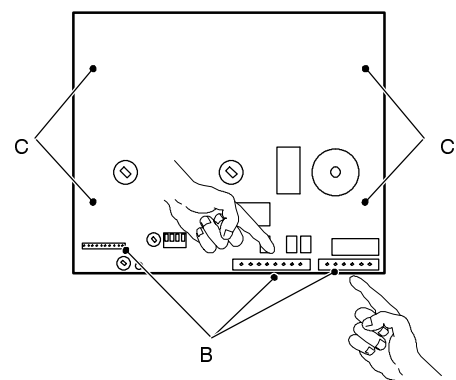

fig. 46
- 3 Delicately flex the hooks indicated in fig. 46 and disconnect the connectors B
- 4 Unscrew the four screws C and remove the circuit (fig. 46);